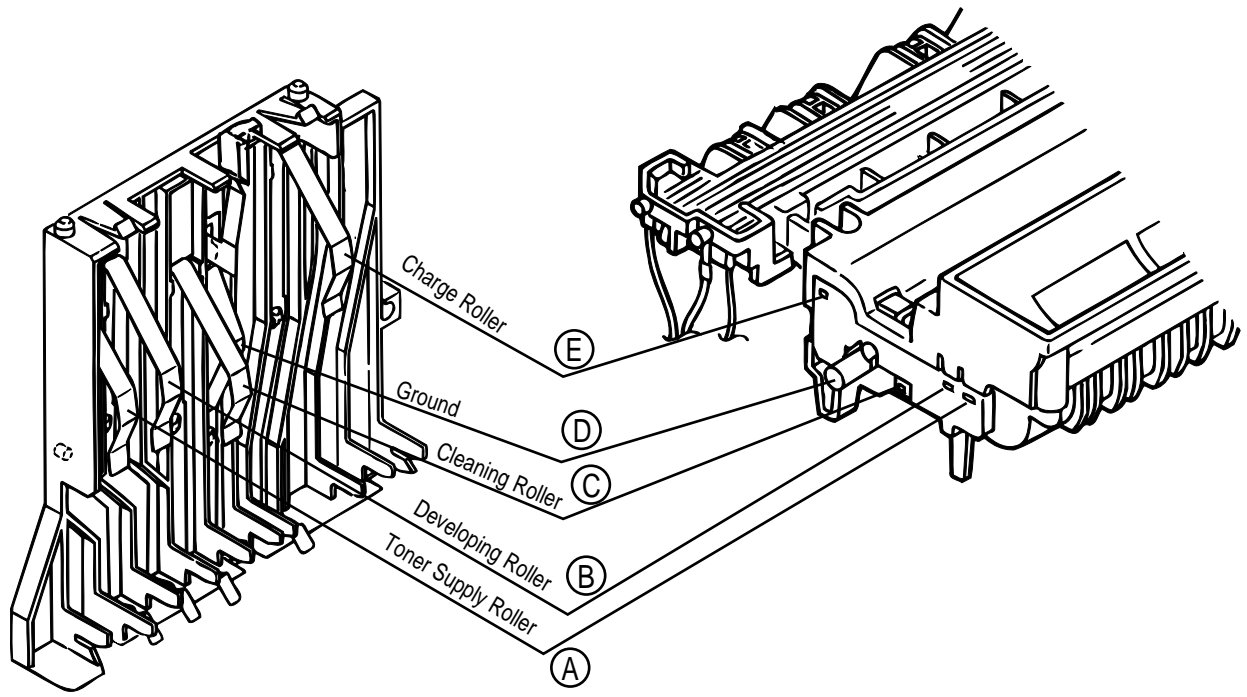

Figure 6-5
- Yes Are the contact of the developing roller and the contact of the toner supply roller of the image drum cartridge contacted with the contact assembly properly? (See Figure 6-5 (A) and (B).)
② Dark background density
- ▼ No Is the contact of the cleaning roller of the image drum cartridge contacted with e contact assembly properly? (See Figure 6-5 ③.)
③ Black paper is output.
- ▼ Yes Is the contact of the image drum cartridge contacted with the ground contact properly. (See Figure 6-5 ④.)